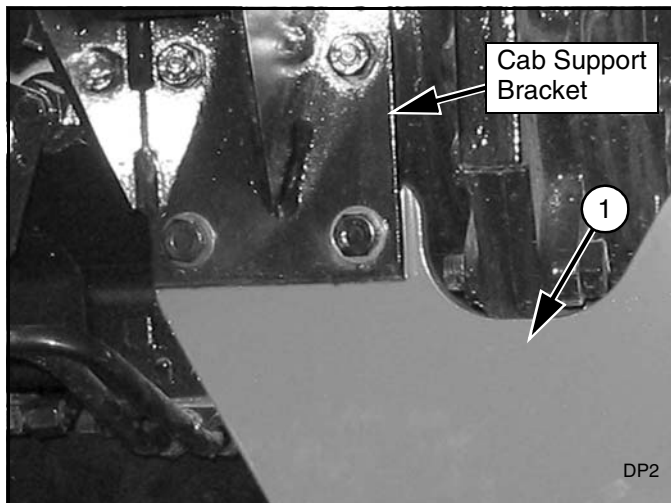

Figure 3. Right Rear Mount Installed, Cab Support
1. Using a lifting device, place right mount (1) between cab support bracket and the tractor housing. Align holes and install tractor hardware previously removed. See Figure 3